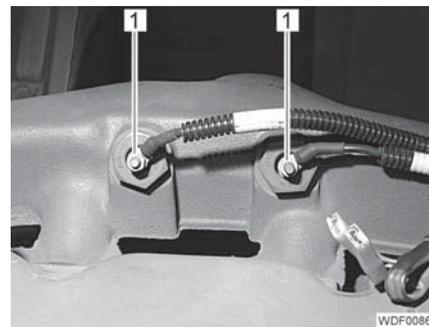

Fig. 9 Glow plugs
- Disconnect the 2 lines (Fig. 9,1) from the glow plugs.